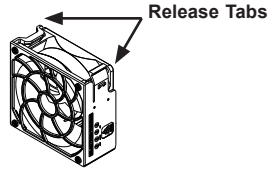

Figure 4-27. System Fan
6. Simultaneously press the release tabs of the fan(s) you wish to remove from the housing as shown in Figure 4-27.